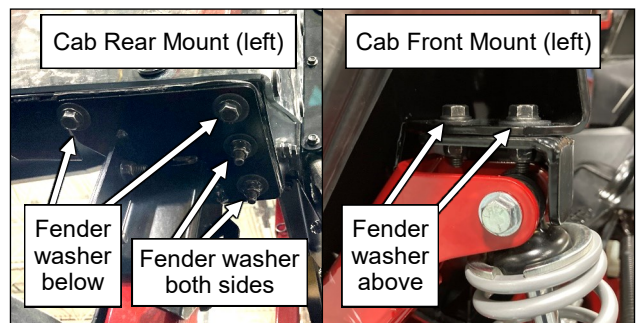

Fig. 4.8 (Cab mounting bolts)
- 4.8 See fig. 4.8. Fasten the rear of the cab to the ROPS mounts using the following hardware. Leave loose at this time.
- 4.9 See fig. 4.8. Fasten the cab to the front mounts of the tractor using the following hardware.